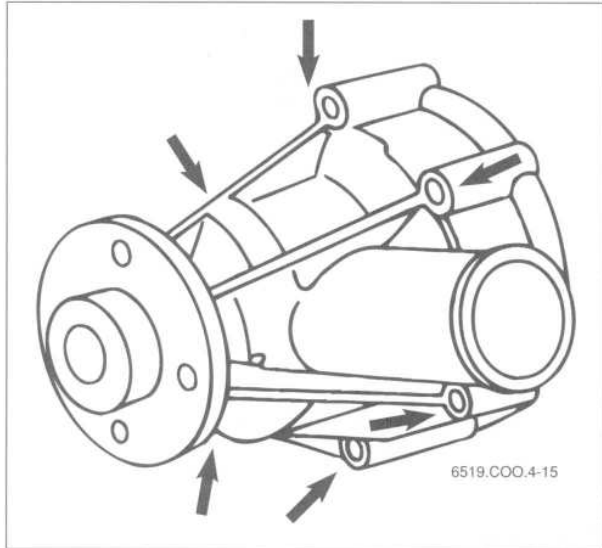

Fig. 11. M30 engine coolant pump. Mounting bolts shown at **arrows**.
7. Remove six coolant pump mounting bolts and remove pump. See Fig. 11.